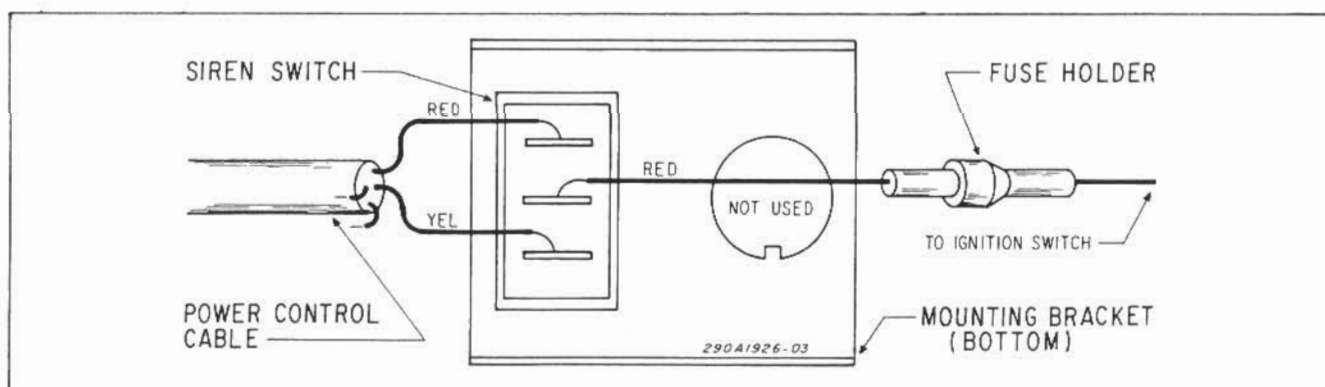

Figure 3-3. Control Switch Wiring.
yellow lead to the bottom lug of the SPDT switch (see figure 3-3).
3. Connect the slip-on terminal of the fused two-foot length of red wire (supplied) to the center lug of the SPDT switch. Connect the other end of this wire to the vehicle ignition switch as shown in figure 3-3.